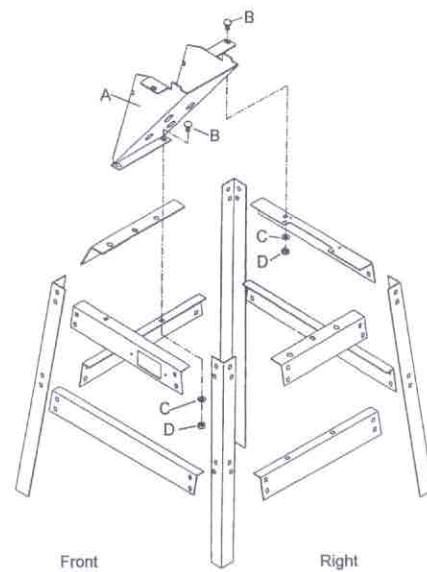

Fig. 2
6. Attach the motor mount bracket (A, Fig. 2) to the left cross brace and the stand top with four 5/16" carriage bolts (B, Fig. 2), four 5/16" flat washers (C, Fig. 2), and four 5/16" hex nuts (D, Fig. 2).